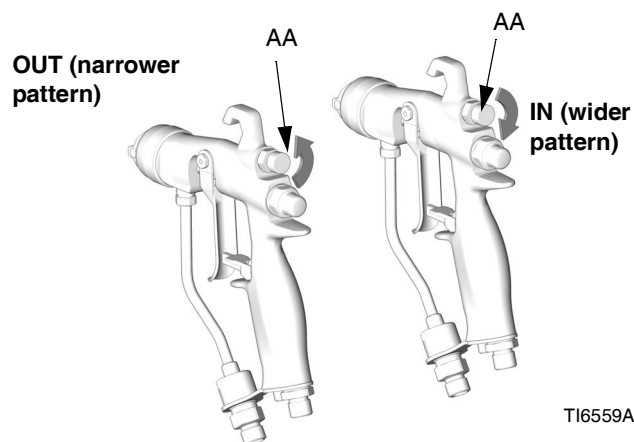

FIG. 6. Pattern Air Knob
1. See FIG. 6. Close off pattern adjustment air by turning knob (AA) clockwise (in) all the way. This sets gun for its widest pattern.